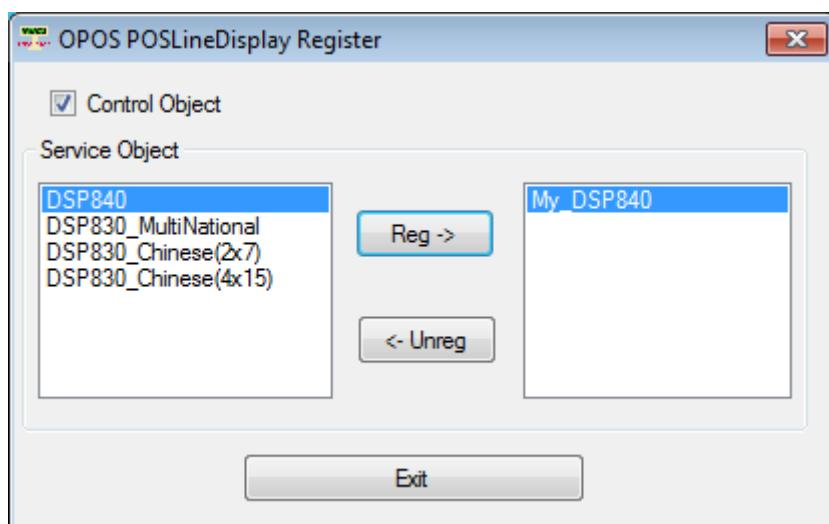

Figure 4-6.
- M. When the device already registered completed .You could also double click device name from device name list (right list), then modify device register relatively parameter. See figure 4-6.
- N. Press “Exit” button, close “OPOSLineDisplayRegister”. See figure 4-6.